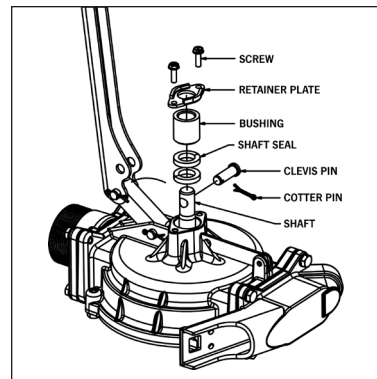

Figure 3
7. Reconnect the handle to the shaft using the cotter pin and clevis pin. (Figure 3)